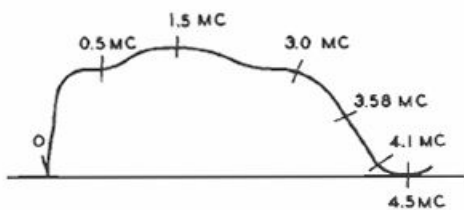

FIG. 7. Response showing 20-db roll-off from 3.0 to 4.1 mc.
3.0 to 4.1 mc as shown in the curve of Fig. 7. The first video stage in the receiver is a peaking stage, Fig. 8, with a 20-db rising characteristic from 3.0 to 4.1 mc to complement this roll-off. A signal amplitude of about 16 volts peak-to-peak, sync negative, is needed to obtain adequate contrast. Because of these conditions, a video preamplifier that will drive the receiver properly must provide the same amplitude and delay characteristics as the picture i-f in order to provide proper color reproduction and registration. Two video amplifier circuits will be shown.